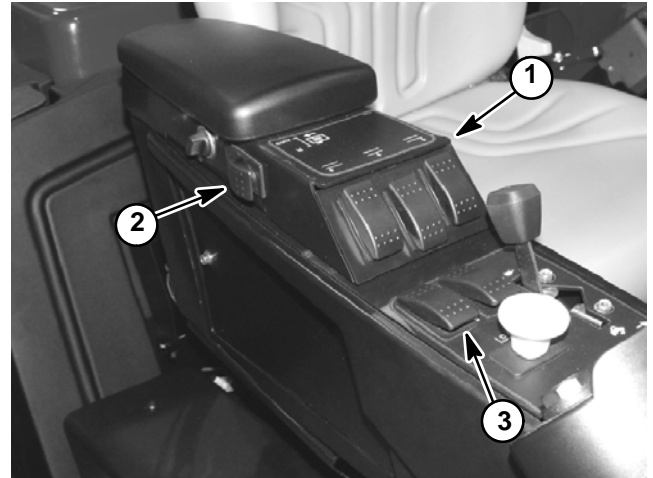

Figure 29
The flow divider and engine cooling fan switches are identical, two (2) position rocker switches that are located on the control console (Fig. 29). These switches have a normal and a momentary position.